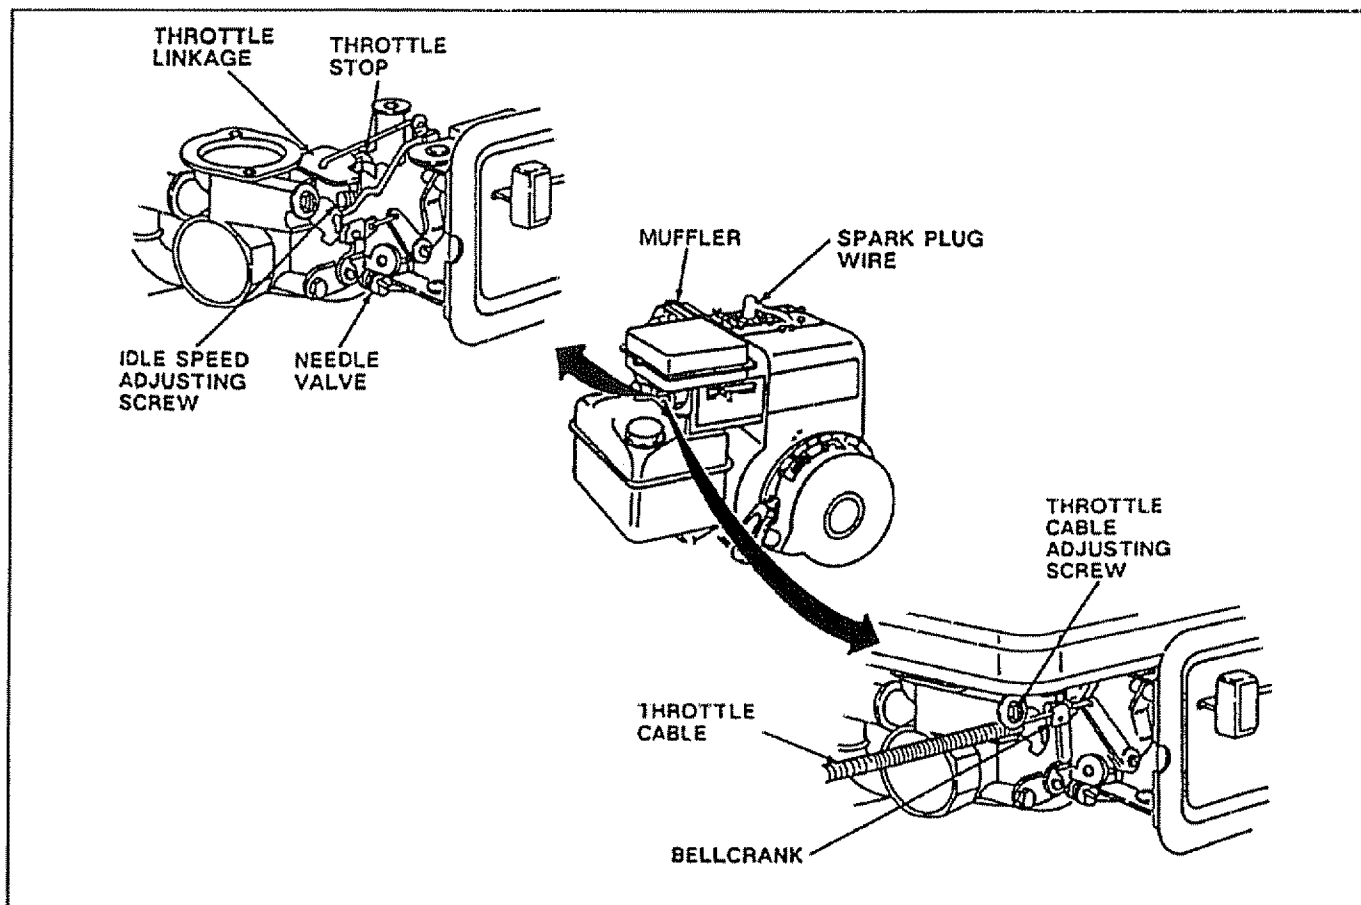

FIGURE 33
- Turn Needle Valve (Fig. 33) clockwise (↻) until it just closes. Valve may be damaged by turning Needle Valve in too far.